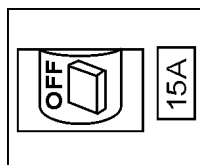

Figure 16. Main Circuit Breaker (OFF)
- Place the main circuit breaker (Figure 16) in the **OFF** position.